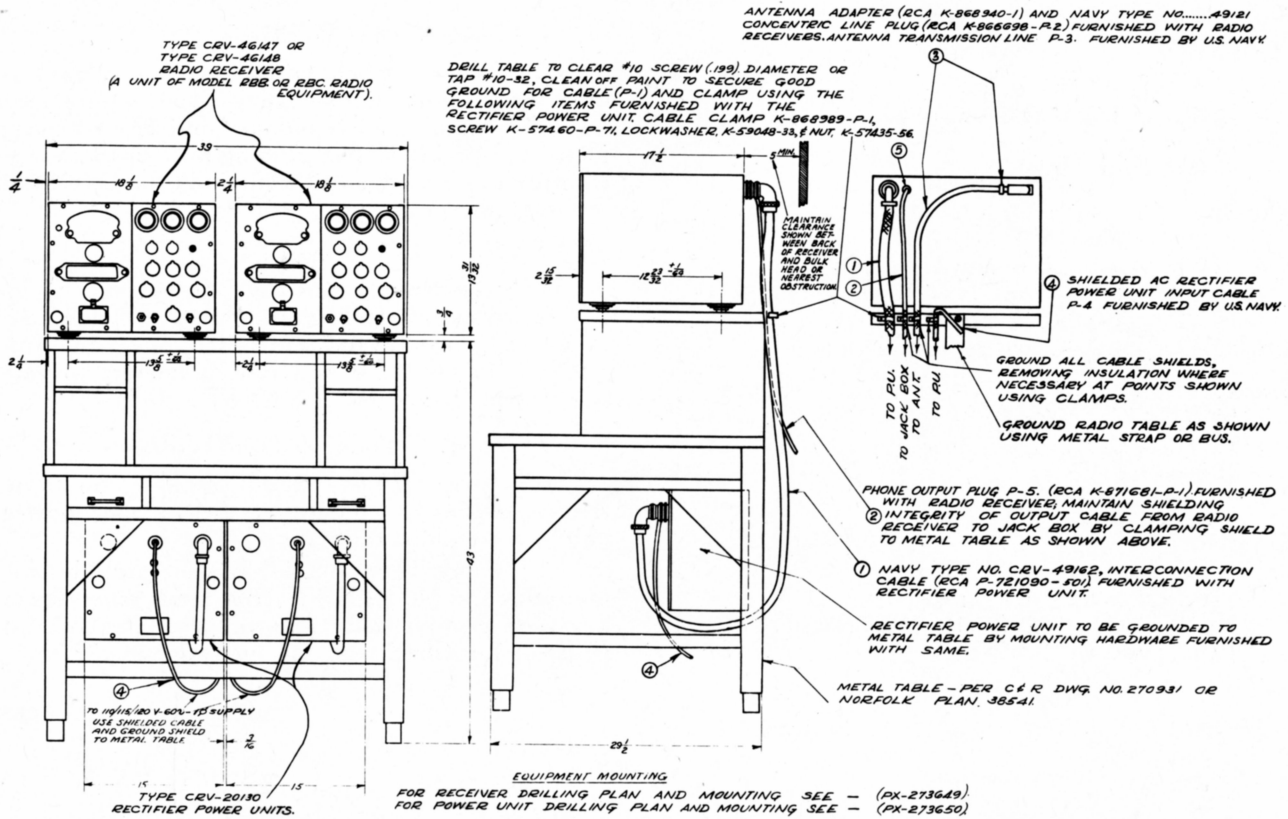

Figure 2-2 — Models RBB/RBC Radio Receivers and Rectifier Power Unit, Installation Diagram (PX-273687)
(3) The supply voltage should be measured and the link connection for the power transformer taps set for 110-, 115-, or 120-volts, whichever corresponds most closely with the supply voltages. This link connection is located on a small terminal board mounted on top of the rectifier power unit chassis.
(4) Place the chassis in the cabinet and tighten the panel thumbscrews.
(5) Ground operating table by means of a metal strap or bus (see Figure 2-2). This grounding strap should be approximately 1/32-inch thick and 2 inches wide.
b. Clamp the cable in place as indicated on Figure 2-2. Be sure to clean off the paint on the table so as to secure a good ground for the interconnecting cable. This operation is indicated as (1) on Figure 2-2.
c. Interconnect the phone output plug (see Tables 1-6 and 1-7) to the jack box, by means of an interconnecting cable. The jack box and cable are not supplied by contractor. See Operation (2) on Figure 2-2.
d. Remove paint from the operating table as indicated on Figure 2-2. Remove the insulation of the interconnecting cable at the point of clamping.